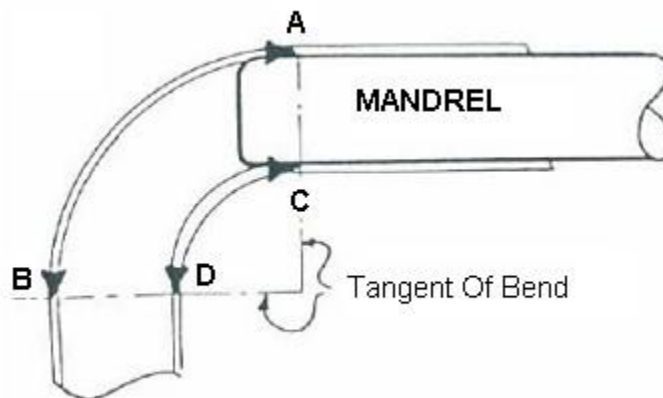

Figure 6
**Unbalanced pressures:** The pressure die should be adjusted for a light pressure against the tube. **The purpose of the pressure die is to keep the tube against the bend die through the duration of bending.** The pressure die also keeps the mandrel from bending and maintains a straight tube between tangent points of bends (the portion of tubing left on the mandrel after bending). The location of the mandrel affects the amount of springback. The mandrel in a forward position (toward tangent) will stretch the material on the outside of the bend more than is necessary. This increases the length of material on the outside beyond that which is required to make a bend. When the bent tube is removed from the bend die, it will conform to the die and there will be little or no springback. **Figure 6** is an overstated example. The outside of the bend actually is in compression with forces acting at points A and B. Counteracting forces occur at C and D. Forces A and B tend to close the bend while forces C and D act to open the bend.
The mandrel in a position away from tangent will not stretch the material on the outside of the bend enough; consequently, there is not enough material to reach from A to B, putting a tension in the material. The forces at A and B are now the reverse of those shown in **Figure 6**, tending to open up the bend. Thus, mandrel location can cause excessive springback, which reduces the angle of bend and